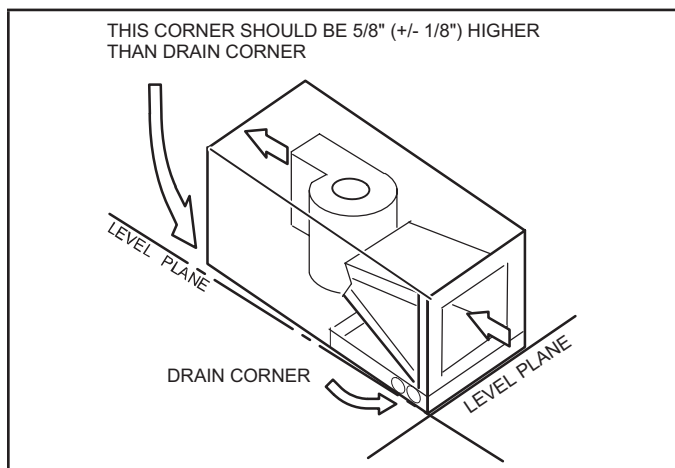

FIGURE 11. Sloping the Unit for Proper Drainage
- 3 - Set unit so that it is sloped toward the upflow drain pan end of the unit and level from front to back of unit (see figure 11).
Make sure the unit is sloped (similar to the slope shown in figure 11) so that the drain pan will empty completely without water standing in the pan.